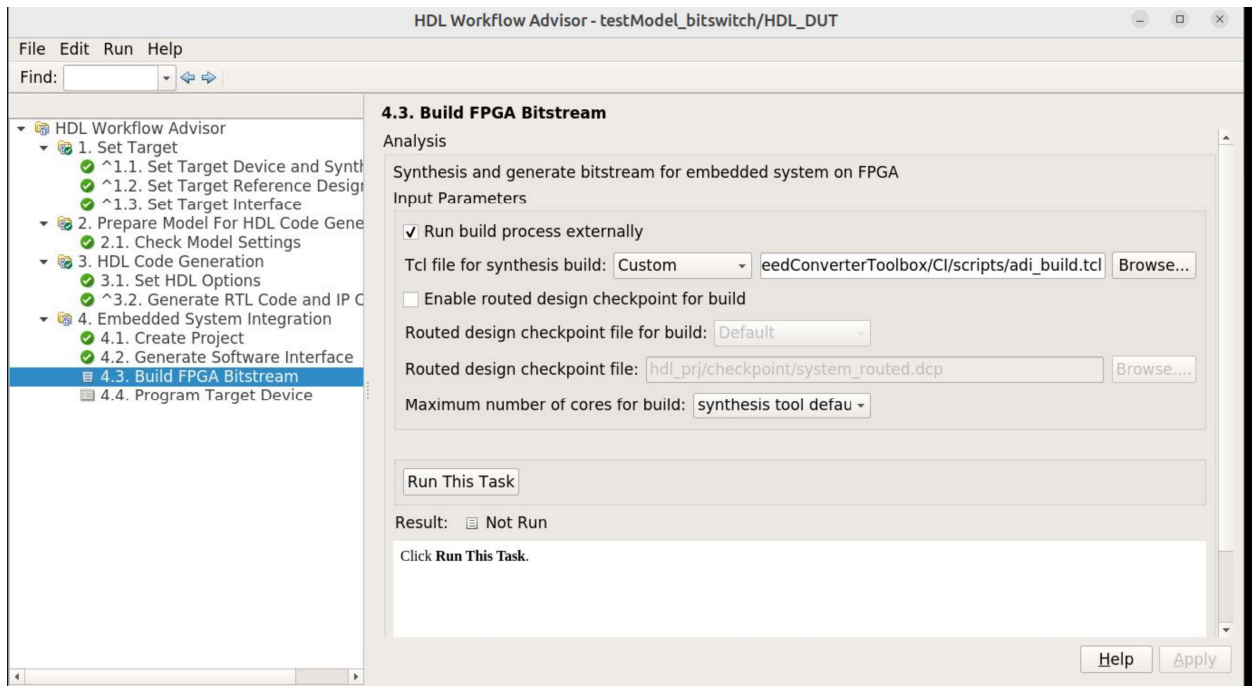

Figure 18. Build FPGA Bitstream
4.3 Choose the “Custom” option for the Tcl file synthesis build, then Browse for the adi_build.tcl file located under HighSpeedConverterToolbox/CI/scripts, as shown in Figure 18: